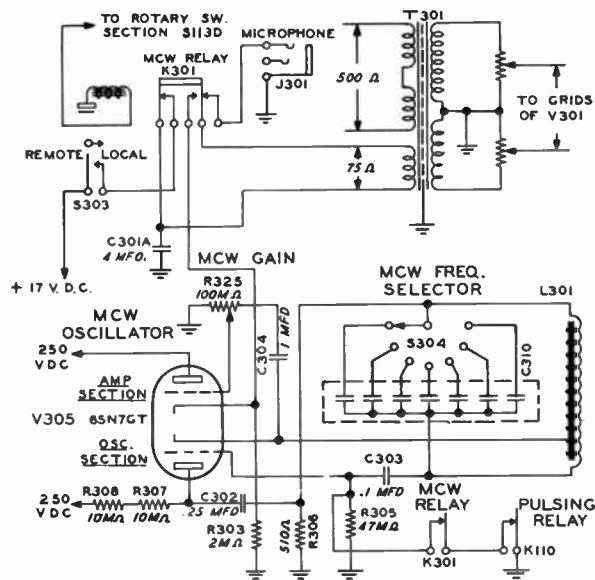

Figure 14 MCW Oscillator - Amplifier Circuit
2.9.5. Audio Driver. Refer to Fig. 14. A cathode coupled push-pull audio driver is employed to drive the Class B modulator stage. The audio drive employs two Type 845 transmitter triodes (V309 and V310). By taking the output from the cathode circuit rather than the plate circuit a much lower impedance output is obtained, making it much easier to couple the output of the audio amplifier to the grids of the modulator tubes.